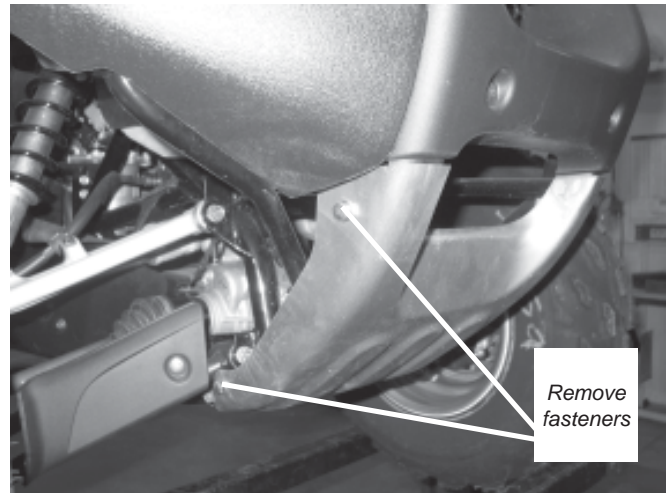
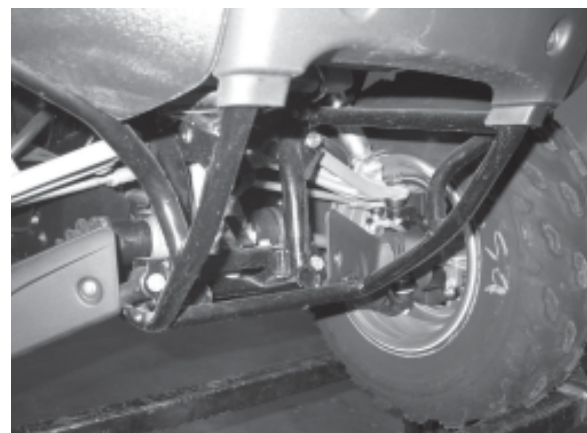

Figure 1
Figure 9b
1. Remove the front aluminum skid plate on the vehicle, as show in Figure 1. Save the fasteners as they will be used later to reattach the skid plate.
- Remove the front aluminum skid plate on the vehicle, as shown in Figure 1 of previous section. Save the fasteners as they will be used later to reattach the skid plate. Figure 9b shows the vehicle frame where the plow mount assembly will be mounted.